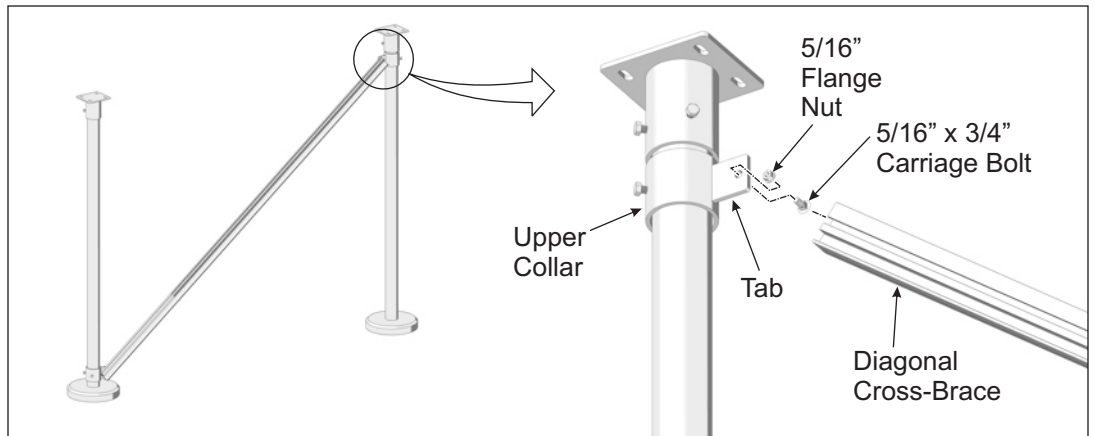

Figure 3-4: Attaching Diagonal Cross-Bracing to Upper Collar
- B. Insert the carriage bolt into the Tab mounting hole and secure with 5/16" flange nut. For now, finger tighten only. (See Figure 3-4)